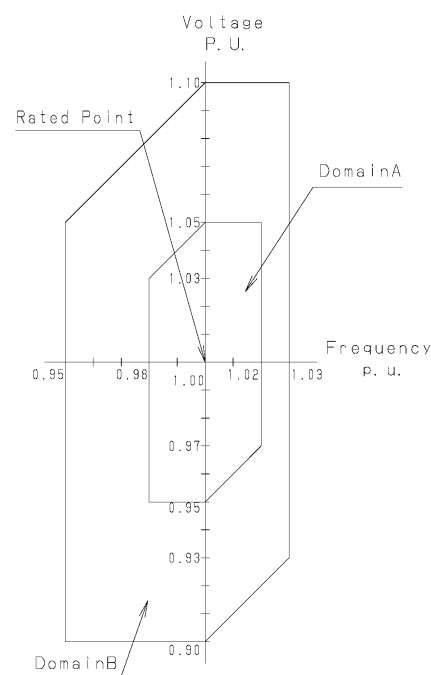

Fig. 3-1
- 4) Piping for evacuation of the container shall have a blocking valve as shown on Fig. 3-1 in order to maintain vacuum status between an inlet pipe and container of the pump.